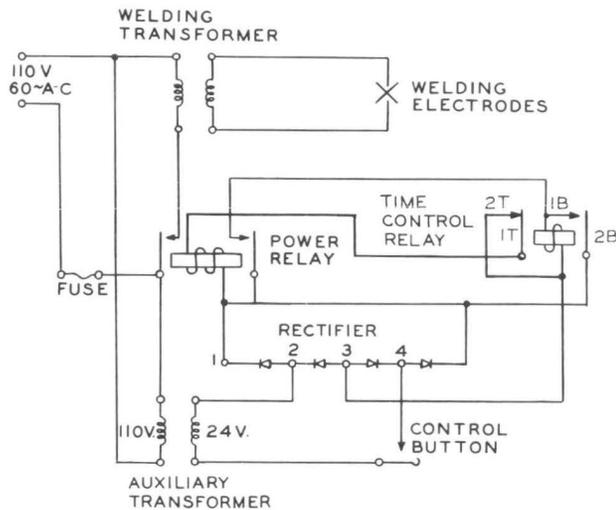

Fig. 2—Contact Welder Circuit
2.02 These sets are similar except for the welding plier connections noted in 2.01. The circuit of the current-supply sets is shown in Fig. 2. In addition to the welding transformer, this circuit contains an auxiliary transformer and rectifier which provide direct current at the proper voltage for operating the power and time-control relays. Both current-supply sets are equipped with a cord for connection to a 105/125-volt, 50/60-cycle ac power supply. They also have a second cord with a control button which, when depressed, causes the circuit to function and apply the proper welding
2.03 Referring to Fig. 2, when the power cord is connected to the proper supply and the control button is depressed, the circuit is closed through the auxiliary transformer and rectifier to operate the power relay. Operation of this relay closes the circuit to the welding transformer which supplies a high current at low voltage to weld the contact to the spring. The operation of the power relay also closes the circuit to operate the time-control (U type) relay. This relay is a slow-operate relay, and the welding current is connected to the electrodes only during the short time required for the relay to operate. Operation of the time-control relay opens the circuit of the power relay which releases, thereby opening the circuit to the welding transformer and cutting off the welding current. The time-control relay locks operated through its make contacts and the control button circuit, thereby preventing reoperation of the power relay if the control button is held depressed. Release of the control button returns the circuit to normal.